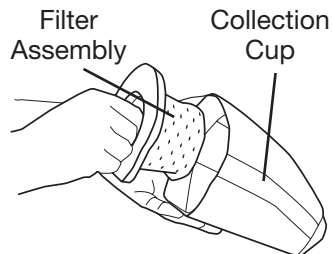

Figure 4
3. Carefully pull the filter assembly outward and remove (see Figure 4).